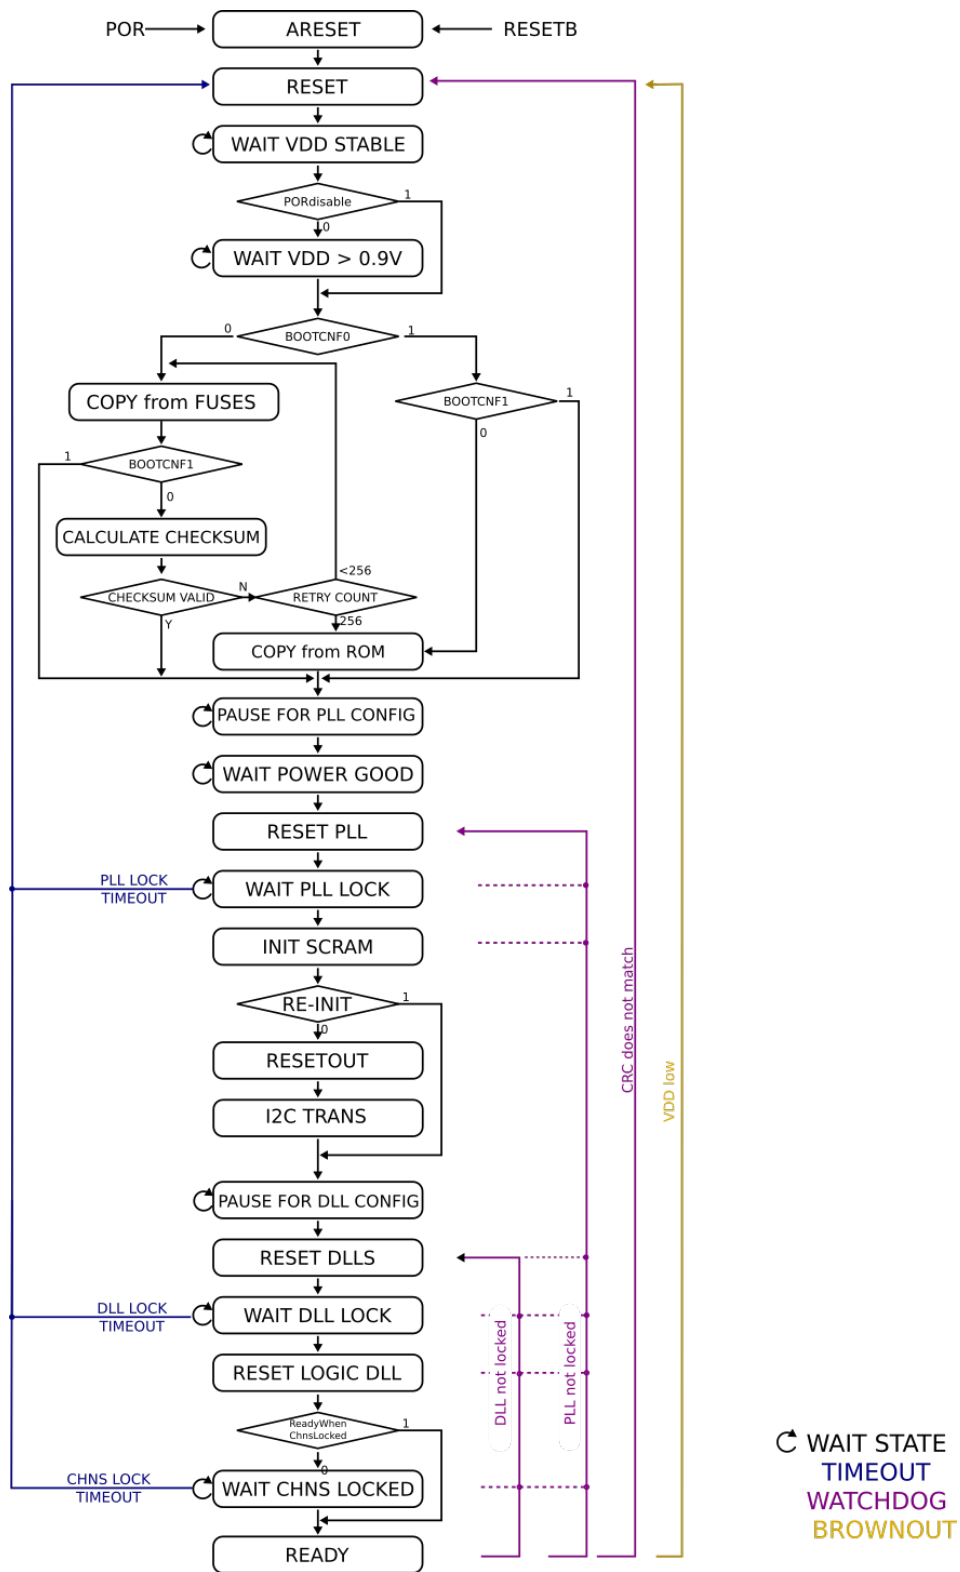

Fig. 8.1: The state diagram of power-up state machine.
The state diagram of the power-up FSM is shown in Fig. 8.1.
12. **RESETOUT** - in this state a *RSTOUTB* signal is deasserted. Since the *RSTOUTB* signal is active low it means that it will transition from low to high level in this stage. Whenever the IpGBT goes through the re-initialization sequence (**RE-INIT** is true on the Fig. 8.1) due to timeout action, brown out action or CRC mismatch action the **RESETOUT** state will be bypassed and therefore the chip will not generate another pulse on *RSTOUTB*. For more details please refer to Section 8.7.6.